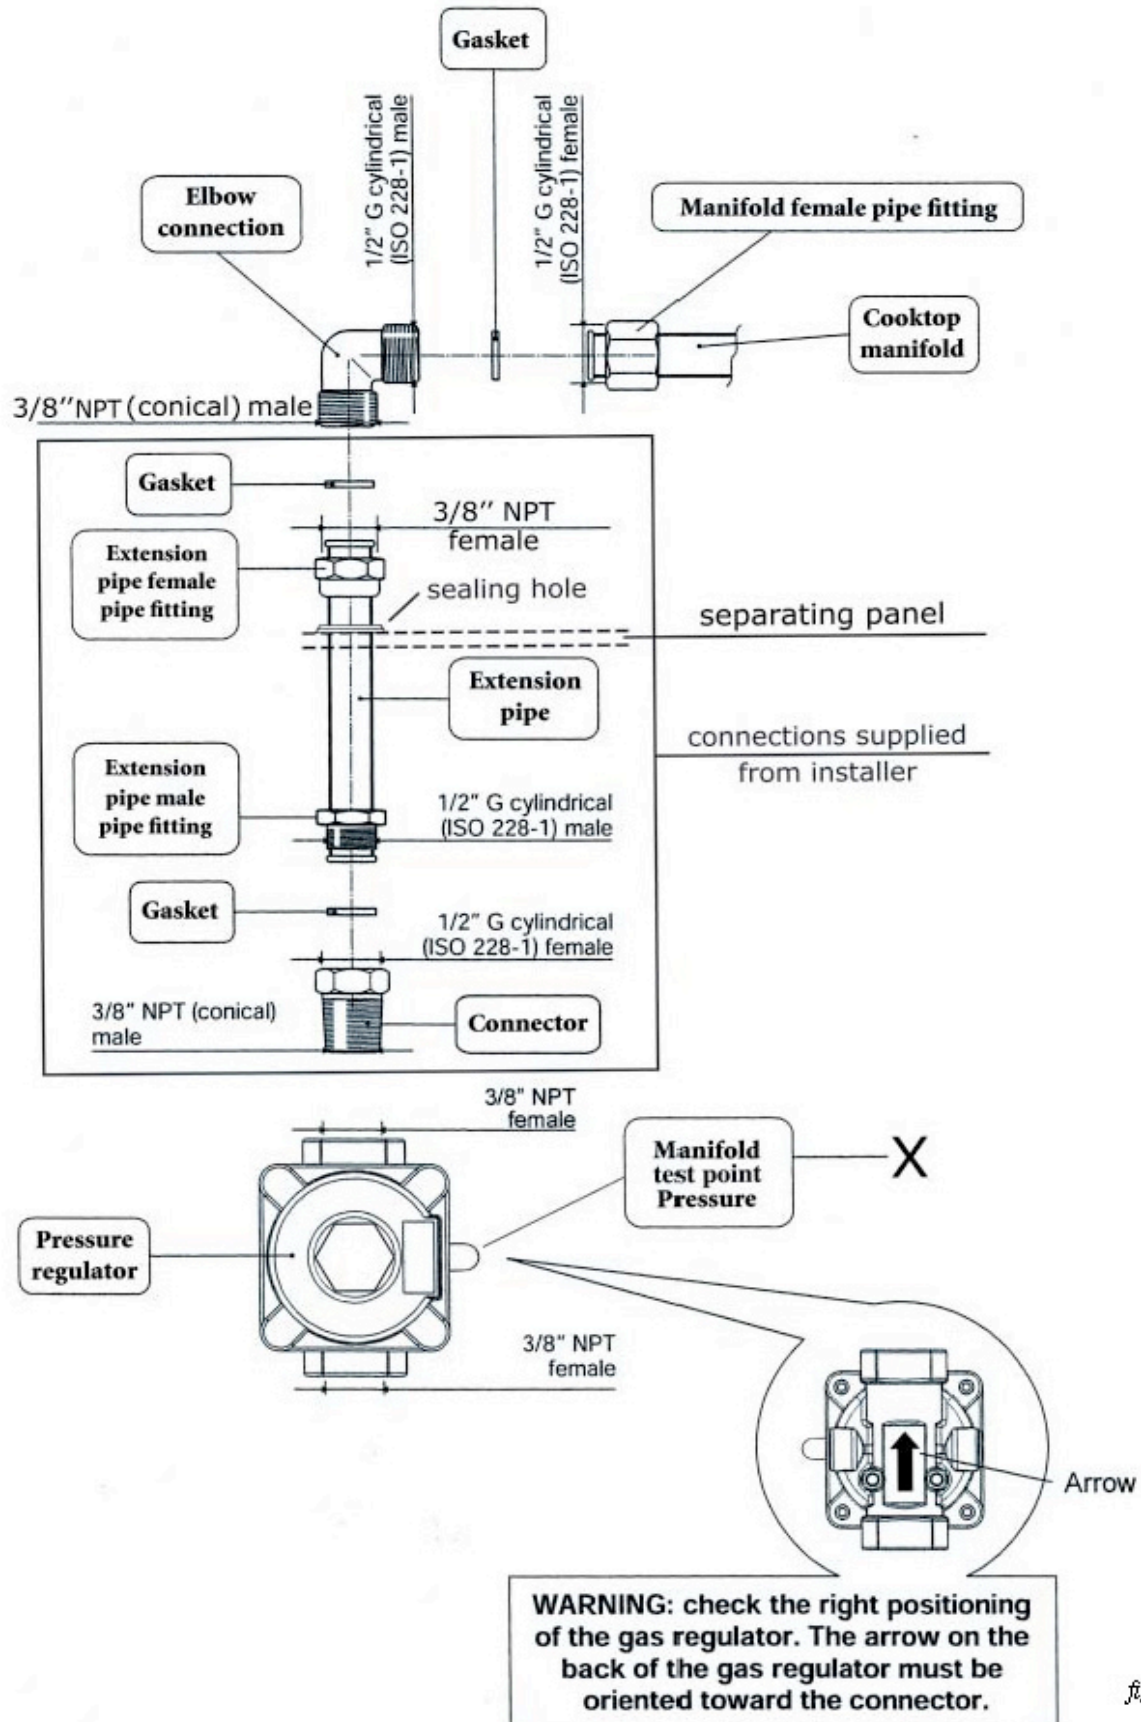

fig.5.2
#### 2. Pressure Regulator (figures 5.2)
- d) Manifold pressure should be checked with a manometer. NATURAL gas requires 5,0"W.C.P. and LP/PROPANE requires 10,0" W.C.P. (see Figure 5.2-X).